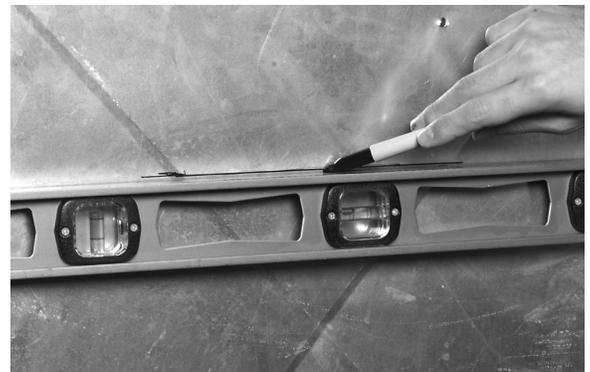

Fig. 4. Marking template location.
2. Draw a level line on the duct in the location chosen for the Humidifier. (Leveling assures optimal performance.) See Fig. 4.